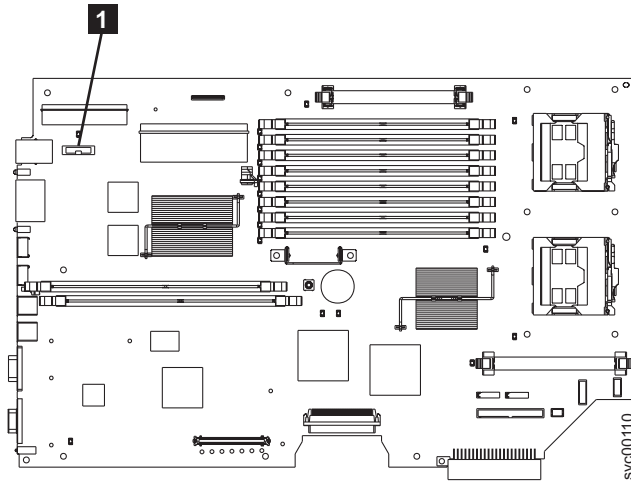

Figure 135. Location of the CMOS battery on the SAN Volume Controller 2145-8F2 or the SAN Volume Controller 2145-8F4
5. Locate the battery **1** on the system board. Figure 135 on page 152 shows the location of the battery.